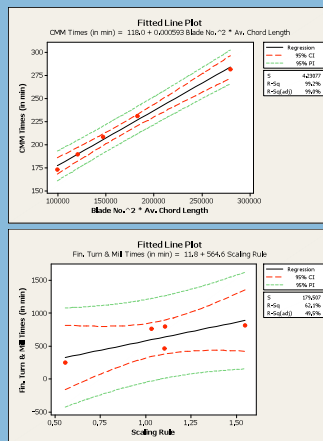

Figure 3 - data fits for two manufacturing operations
- Figure 3 shows the linear fits for two different manufacturing operations. Statistically there is a 95% chance that any additional point will lie in the region between the two green outer lines on each diagram, known as the prediction interval. The accuracy of the collected data and the scaling rules vary considerably as the width of the prediction intervals in the two examples show.